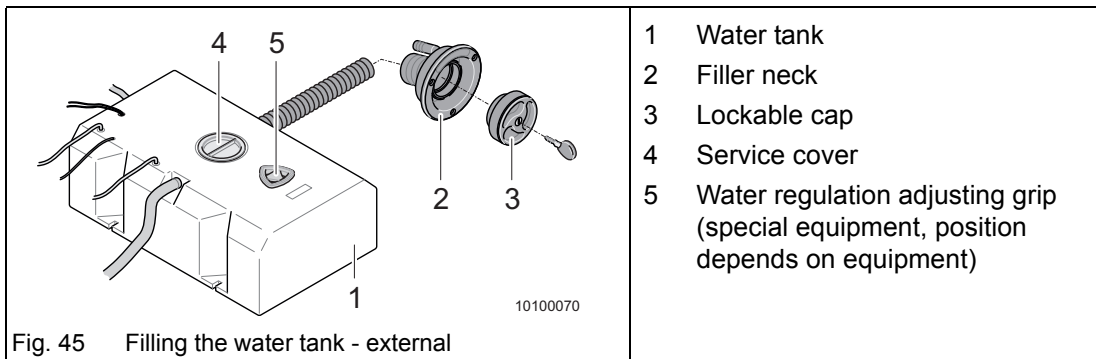
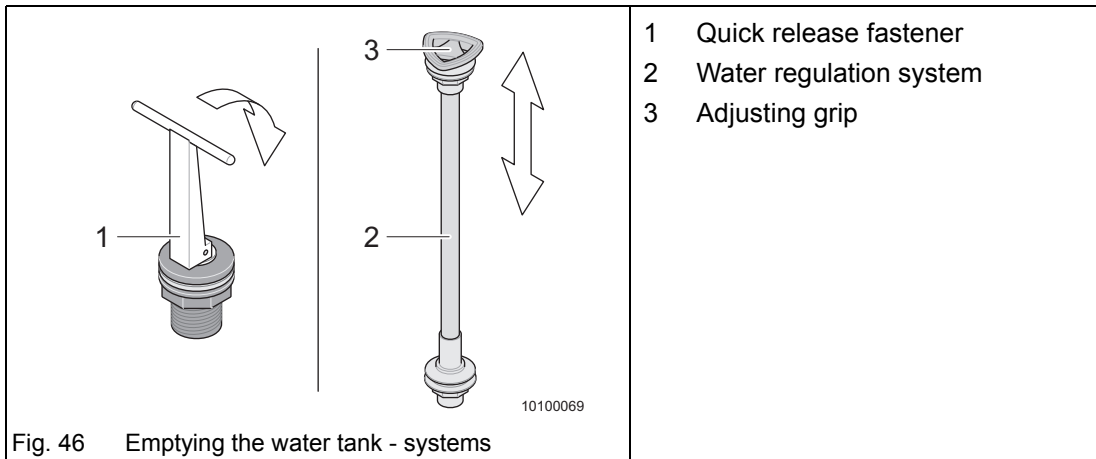

Fig. 45 Filling the water tank - external
Fig. 46 Emptying the water tank - systems
- Some models are fitted with a water regulation system (special equipment) (Fig. 46/2). An adjusting grip (Fig. 46/3) (Fig. 45/5) is positioned on the top side of the tank to regulate and drain the water.
- ➔ Unlock and open the lockable cap (Fig. 45/3) on the filler neck (Fig. 45/2).
- Either open the service cover (Fig. 45/4), fold the grip on the plug in the tank (Fig. 46/1) down and pull the plug out,
- or turn the adjusting grip of the regulation system (Fig. 46/3) or (Fig. 45/5) anticlockwise to the stop.